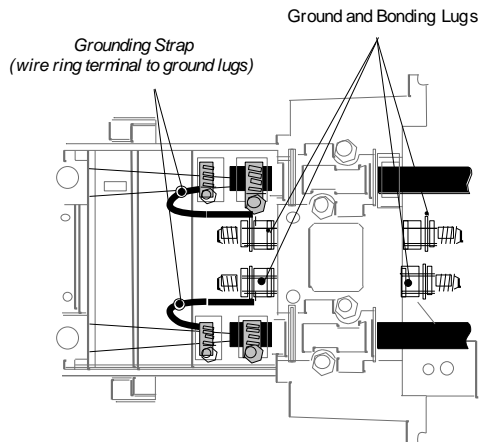

Figure 9a – Grounding and Bonding Terminal Lugs
13.01 Terminate the ring terminal of the bond wires (previously installed) on each of the cables to a common ground terminal on the inside of the center section. See **Figure 9a**. Tighten the ground terminal hex nuts securely.